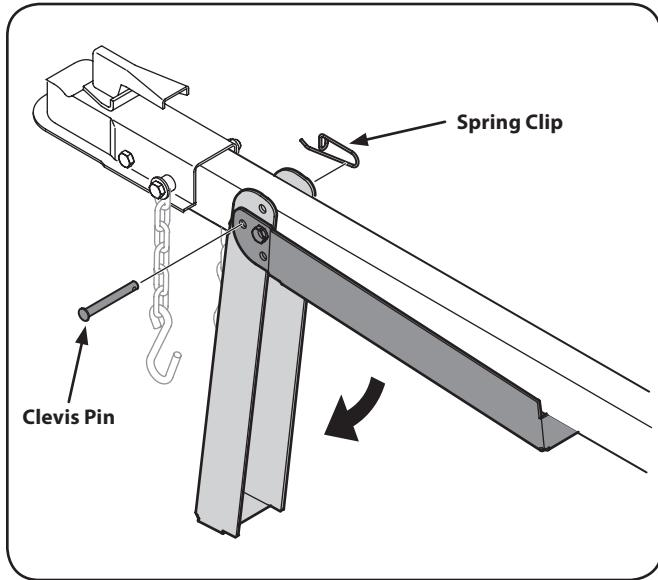

Figure 4-4
- Secure the jack stand in position with the clevis pin and the spring clip. See Figure 4-4.